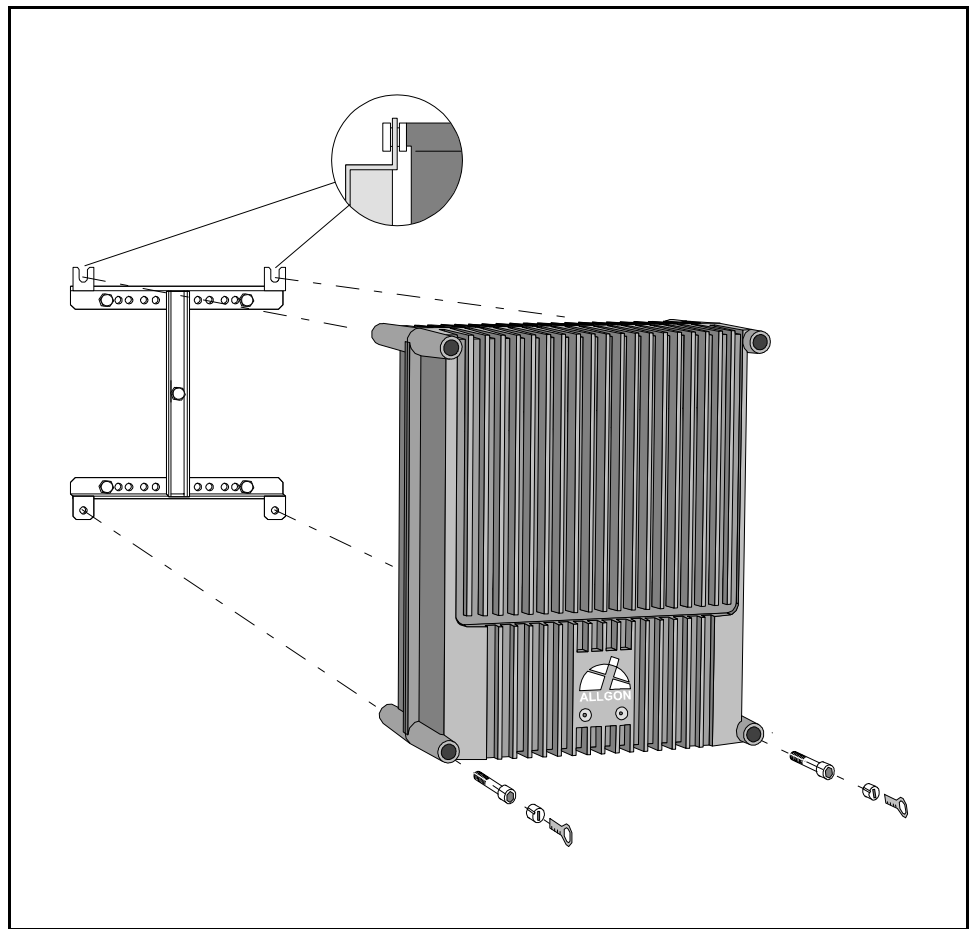

Figure 3-6. Attaching the repeater to the bracket
2. After attaching the bracket, hang the repeater on the upper supports (see Figure 3-6) and use the screws for the lower ones. Tighten the upper and lower screws.
There are locking cylinders that can be inserted and locked with a key after the lower screws have been tightened (see Figure 3-6). These prevent unauthorized removal of the repeater.